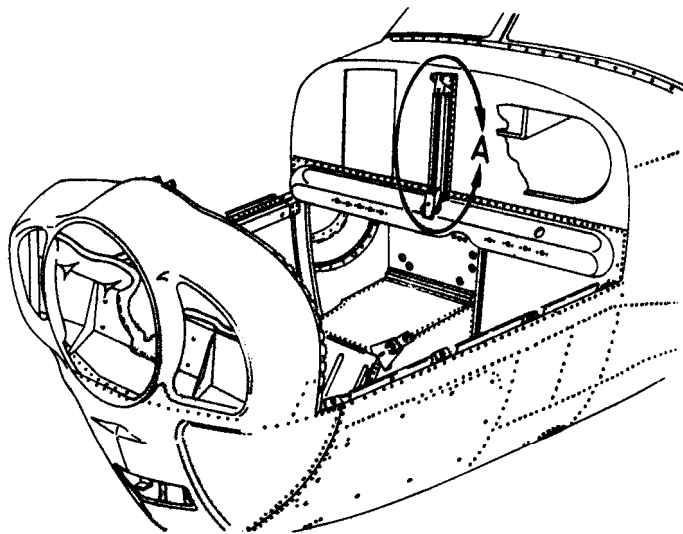
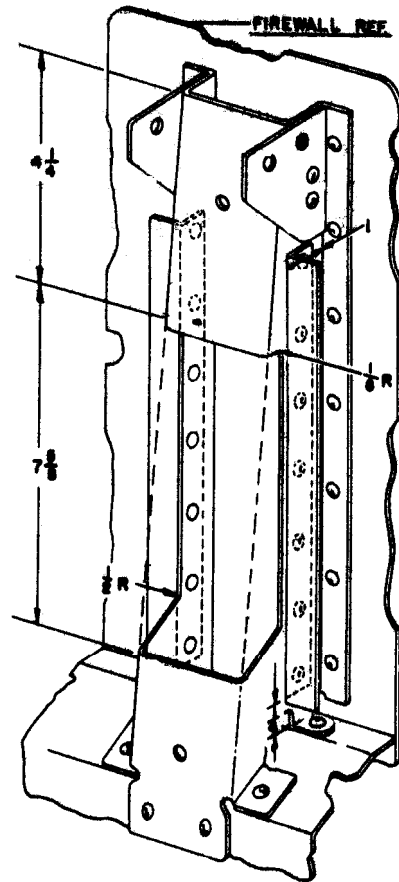

Fig. 7
Fig. 8
A. Rework of firewall center channel - all serial numbers. With the engine and hood removed, rework the firewall center channel as shown in fig. 7 and Fig. 8.